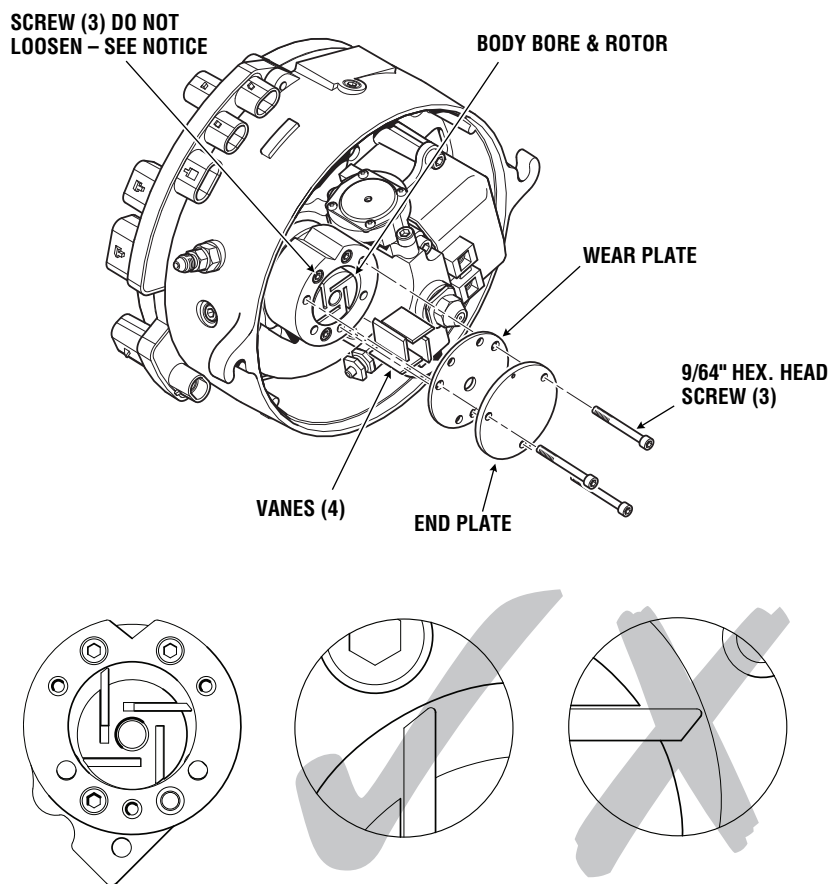

Figure 5-8: Compressor Components
DO NOT loosen the three screws holding the compressor body (figure 5-8), as it requires special tools to install the compressor body back in proper position.
The three holes in the plates are not equally spaced. Ensure their correct alignment to the compressor body (figure 5-8).
- a) Remove three screws holding the compressor End Plate using a 9/64 hexagon key (refer to figure 5-8).
- b) Remove the End Plate and the graphite Wear Plate (located behind the aluminum End plate) - refer to figure 5-8. Avoid damage to the end plate.
- e) Spray body bore and rotor with non-petroleum based flushing solvent (refer to figure 5-8). **DO NOT USE BRAKE CLEAN.**